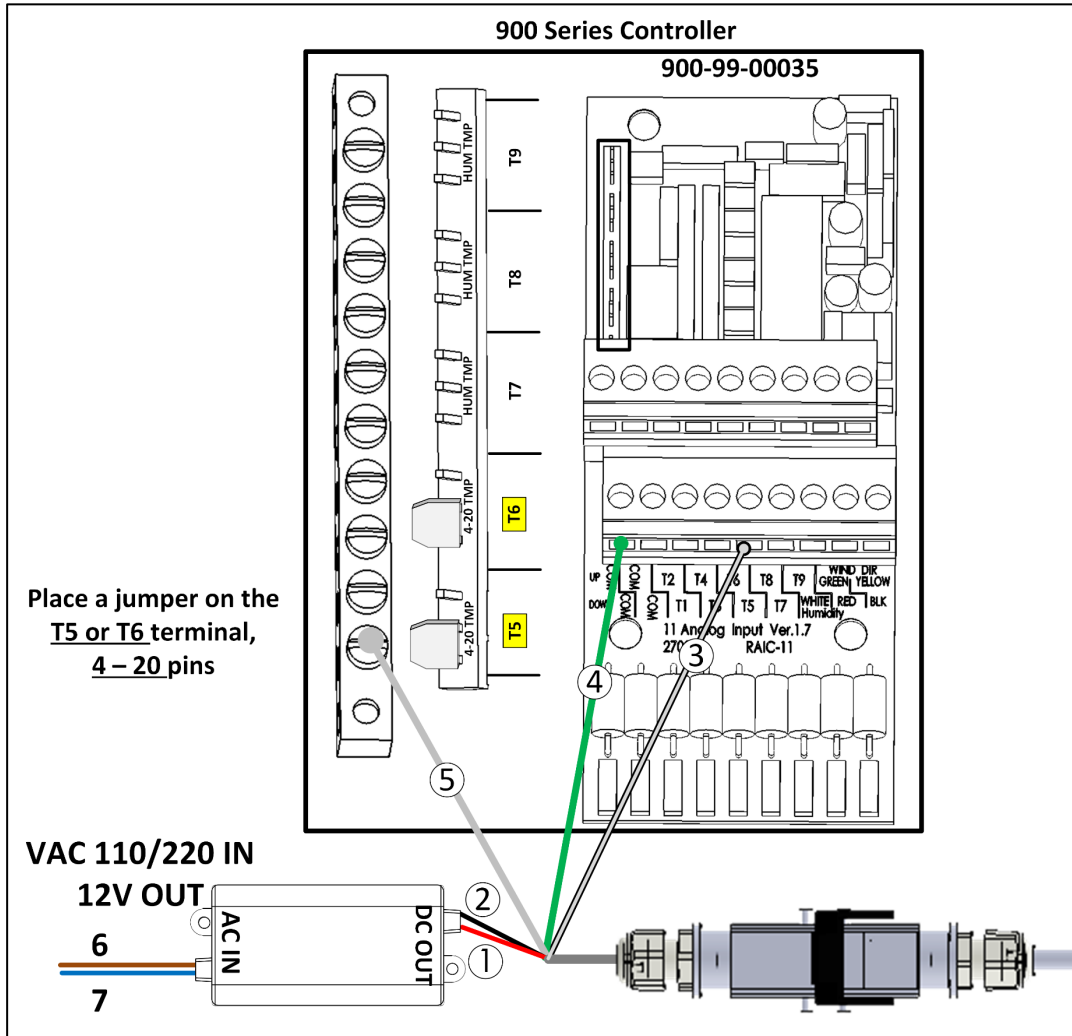

Figure 11: Platinum Wiring
1. Attach the other end of the sensor cable to the power supply and Platinum Analog Input Card as indicated in Figure 11.